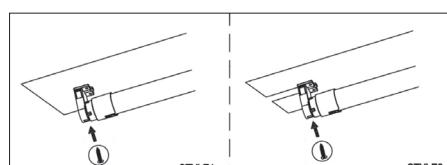

Figure 8
**STEP 8:** Insert the screw into the lamp holder and tighten. See Figure 8.